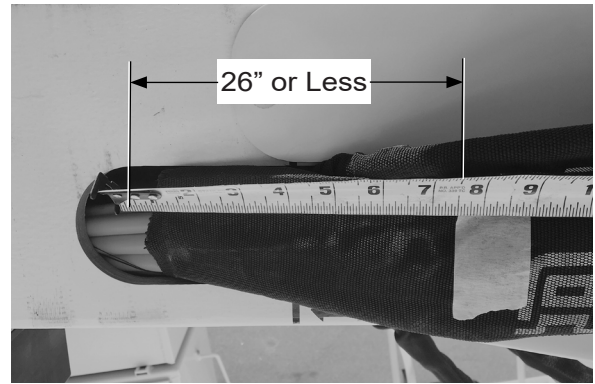

Figure 4 — Measuring Sock with Proper Length
- If the length is 26" or less (refer to Figure 4), proceed to step 7.